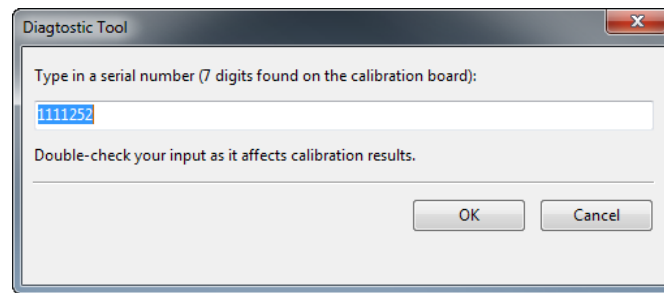
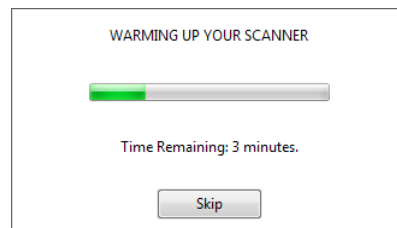

Figure 11.9.: Entering serial number of calibration board.
Figure 11.10.: Warming up the scanner.
6. Click *Start calibration*. A dialog box will open (see Figure 11.9.); enter the serial number of your calibration rig (it appears on the board). If the scanner temperature is outside the optimal range—for example, you just connected the device to a power outlet—the tool will notify you of this condition (see Figure 11.10.). We advise against clicking *Skip* and instead recommend waiting for the Artec Spider to reach its optimal temperature.